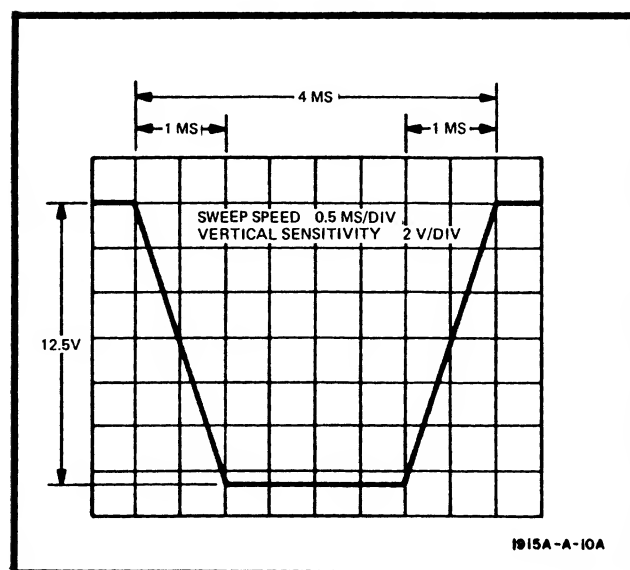

Figure 5-12 Negative Overload Setup Pulse
e. Set Model 1915A WIDTH vernier, LEADING EDGE and TRAILING EDGE controls to obtain the display shown in Figure 5-12.